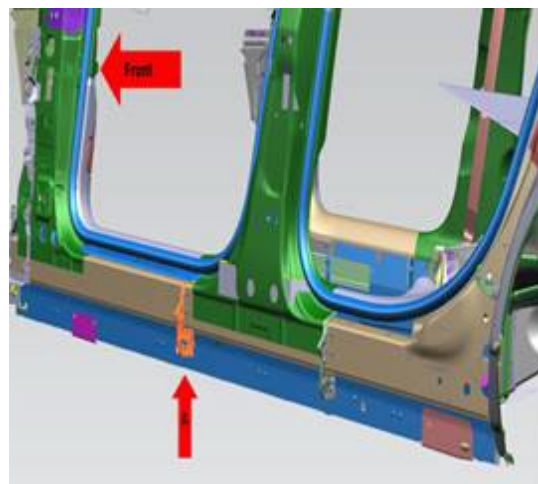

Figure 4. Location of the sound absorber.
6. Figure 4 shows the location of the sound absorber marked 'A'.